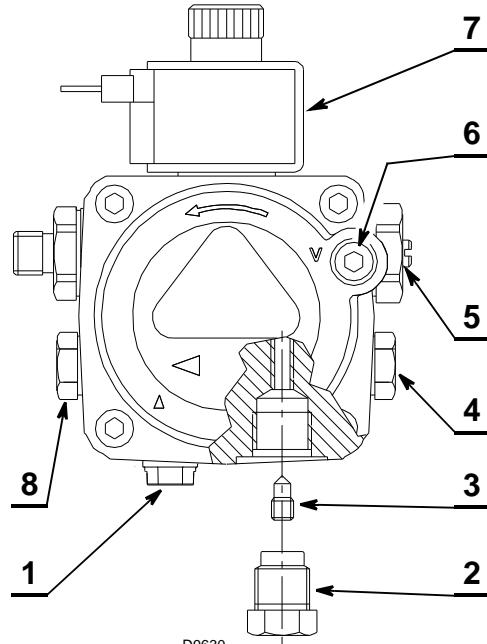
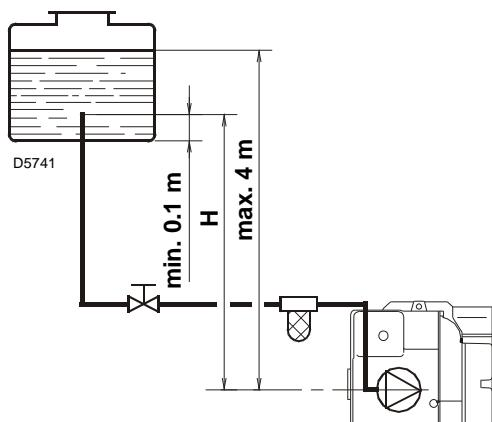

Fig. 8
Fig. 9
In order to obtain one pipe working it is necessary to unscrew the return plug 2)(Fig. 8), remove the by-pass screw (3) and then screw again the plug (2).
Key (Fig. 8)
In the system of Fig. 9 just loosen the connection of the vacuum-meter 6)(Fig. 8) and wait for the fuel to come out.